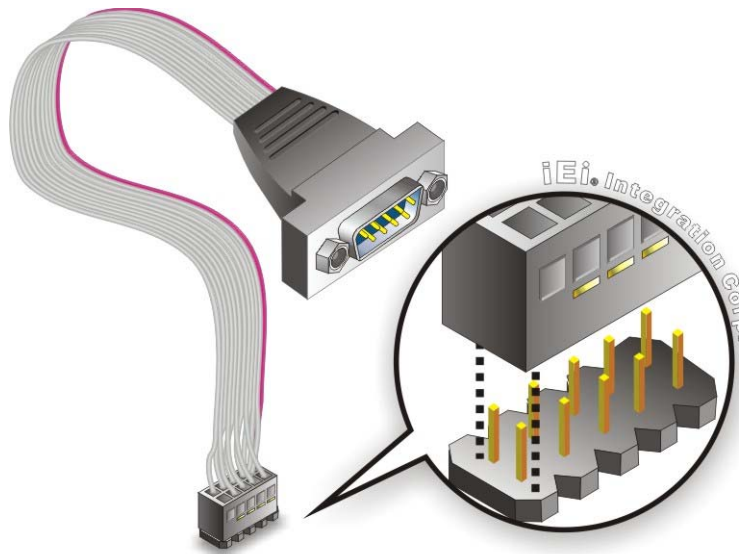

Figure 4-16: Single RS-232 Cable Installation
Step 2: **Insert the cable connector.** Insert the connector into the serial port box header. See **Figure 4-16**. A key on the front of the cable connectors ensures the connector can only be installed in one direction.